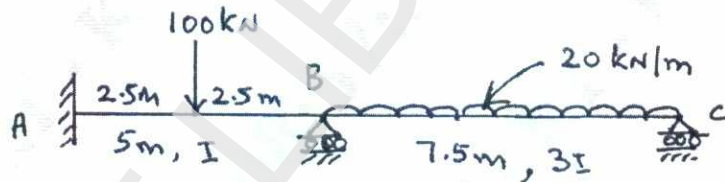

Fig. Q2
- 2 Analyze the continuous beam shown in Fig. Q2 by using slope deflection method. Draw BMD and SFD. (20 Marks)